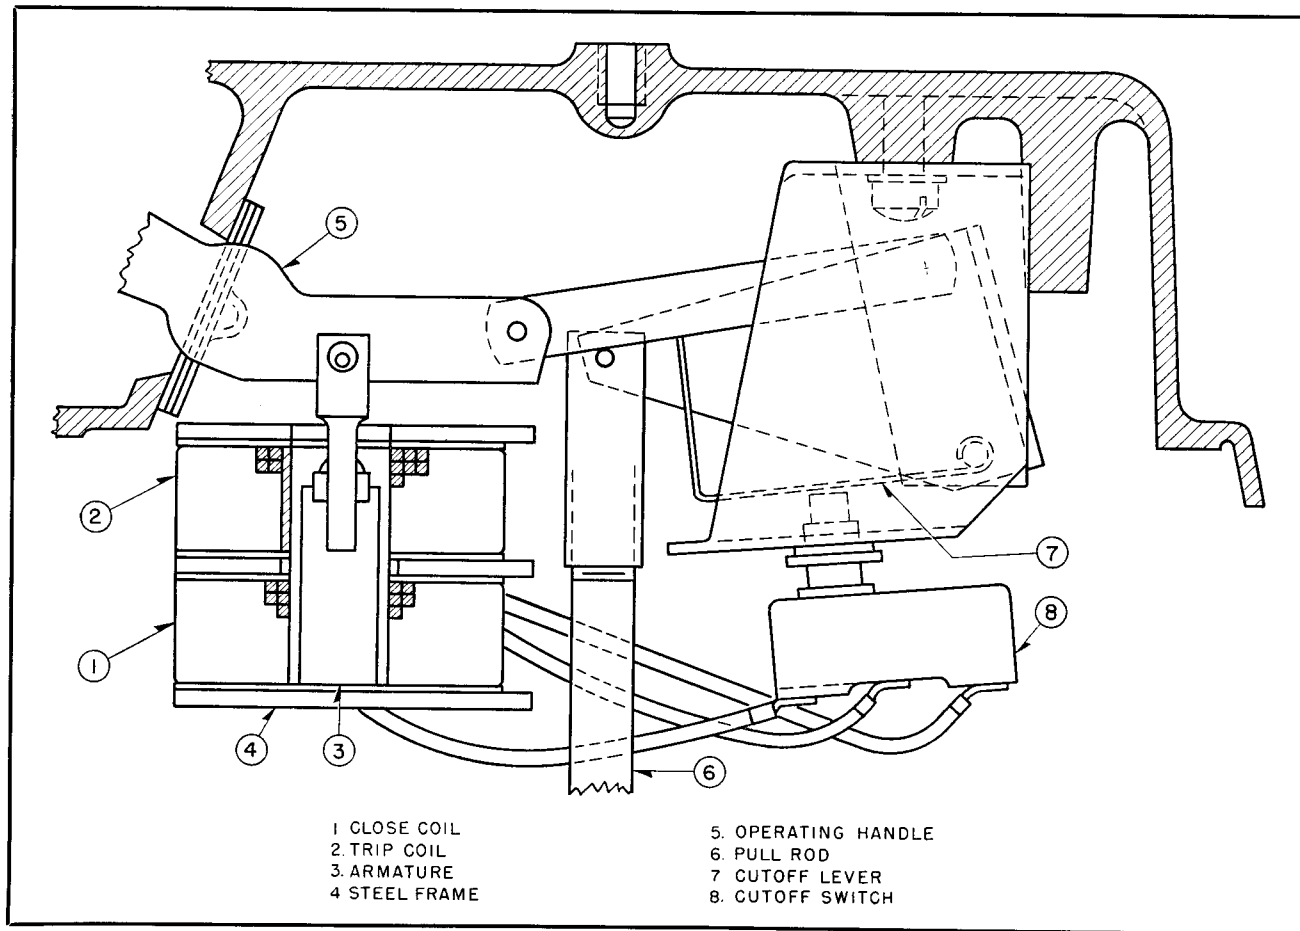

FIG. 2. Operating Mechanism for Type CSO-1 Oil Switch
Operating Principle. The operation of the solenoid operated Type CSO-1 Capacitor Switch is dependent upon a closing and tripping solenoid and a cutoff switch. (See Fig. 2). The solenoid consists of a close coil (1), a trip coil (2), a steel armature (3), and a steel frame (4).